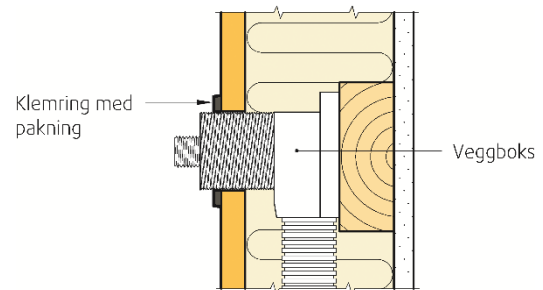

Fig. 6
- The tightening ring and gasket delivered with the wall boxes is to be installed as shown in fig. 6.